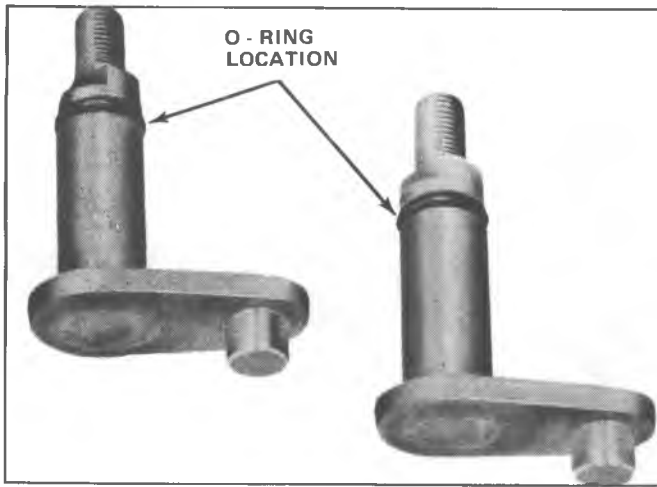

Fig. 11R--Shift Fork Shafts
21. Remove both shifter fork shafts (fig. 11R).